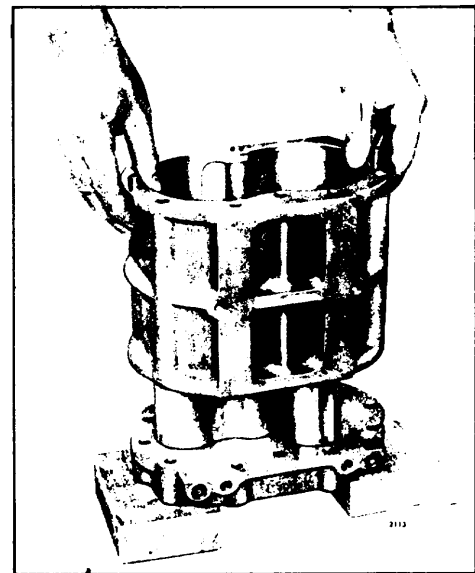

Fig. 6. - Installing Blower Housing Over Rotors
2. Place the front end plate on two wood blocks. Then install, the rotors, gear end up, on the end plate (Fig. 6.).